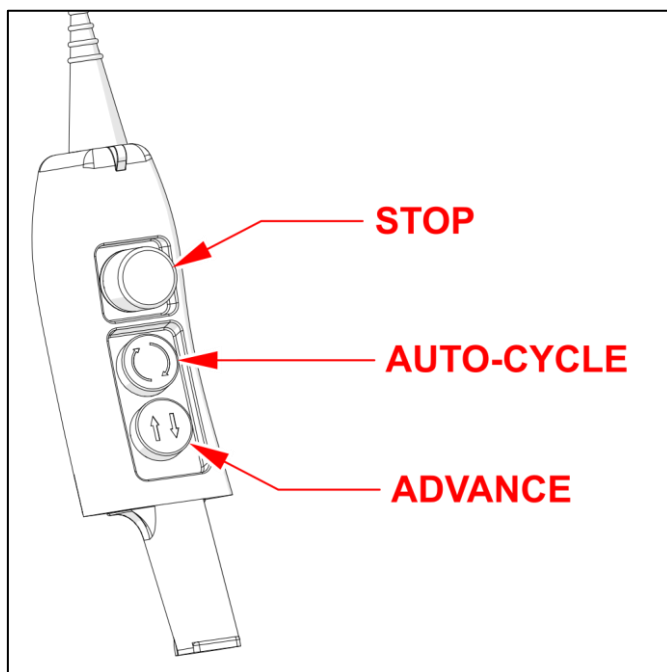

Figure 5.6: Control Pendant Buttons
- Ensure the pressure relief valve (12) is fully open (wound anti-clockwise).
- Press the 'Advance' button on the control pendant (17) once, to turn on the pump. (See *figure 5.6*)
- Press and hold the 'Advance' button (see *figure 5.6*) on the control pendant (17). The tool may stay stationary or advance slowly depending on the relief valve setting.
- Set the adjustable relief valve (12) to approx. 100 bar. The tool will advance to its full stroke. If the tool retracts, then the hoses are connected incorrectly and need to be swapped over at the tool couplers. **(Function test)**
- Switch off the pump unit by pressing the 'Stop' button (see *figure 5.6*) on the control pendant (17) and check the tool and connections for any leaks. If leaks are found, these **MUST** be rectified before commencing with any torque operation.